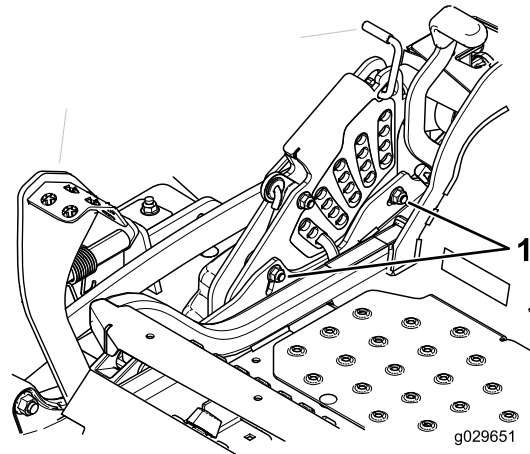

Figure 94
- 12. To adjust the single point system, loosen the 2 bolts at the bottom of the height-of-cut plate. Refer to Figure 94.
14. Torque the 2 bolts at the bottom of the height-of-cut plate (Figure 94) to 37 to 45 N·m (27 to 33 ft·lb).